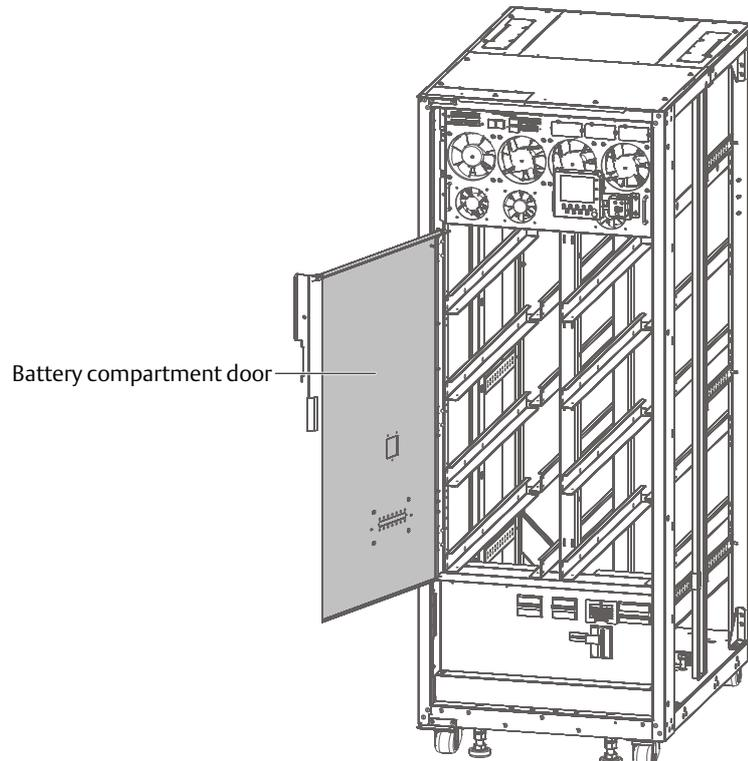

Figure 8-7 Opening the battery compartment door
3. Open the cabinet front door, remove the screws in order to open the battery compartment door (see Figure 8-7), and keep them.